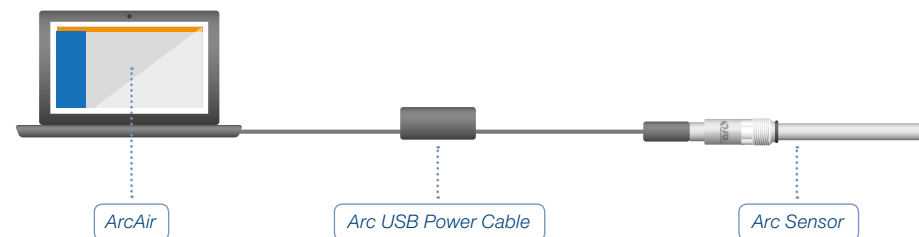

Fig. 1: Arc System wired connection to ArcAir application
> See figure 1 to 3 (Chapter 5)
- 1) Connect one of the Arc sensors with the power supply, e.g. by using the Arc USB Power Cable on a standard USB port (see figure 1)